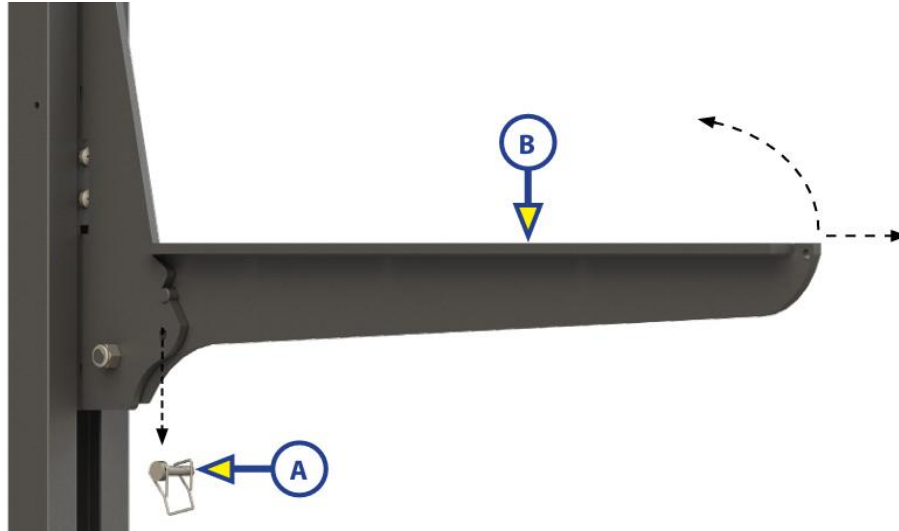

Figure 146. Lowering the sofa to a vertical orientation. The safety pins (A) must be pulled and the arm (B) is rotated up and out, then lowered.
5. Remove the lock pins (2) underneath the sofa base at the lower trolley. See Figure 146.